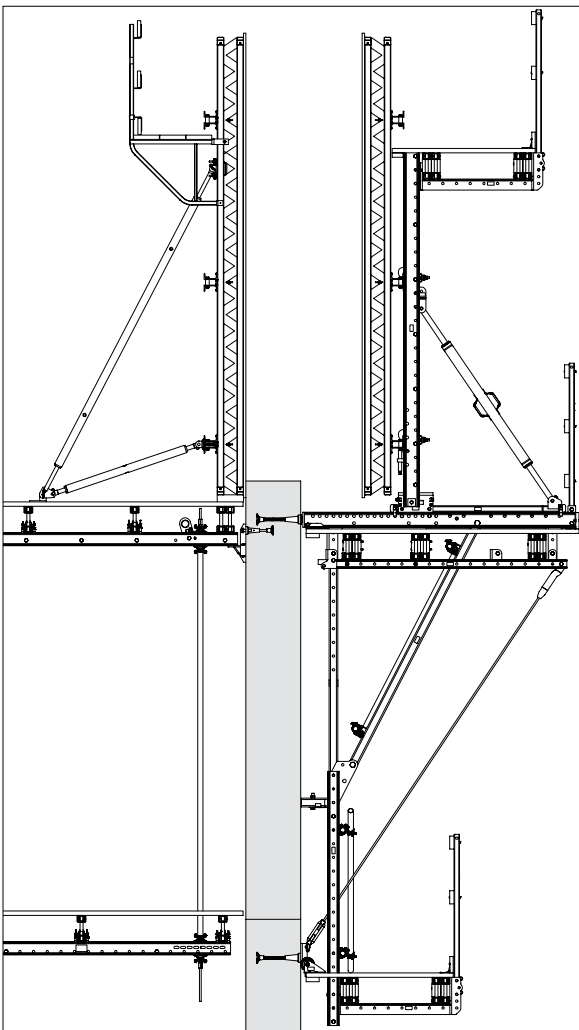

Fig. 06
- Operational status. (Fig. 06)